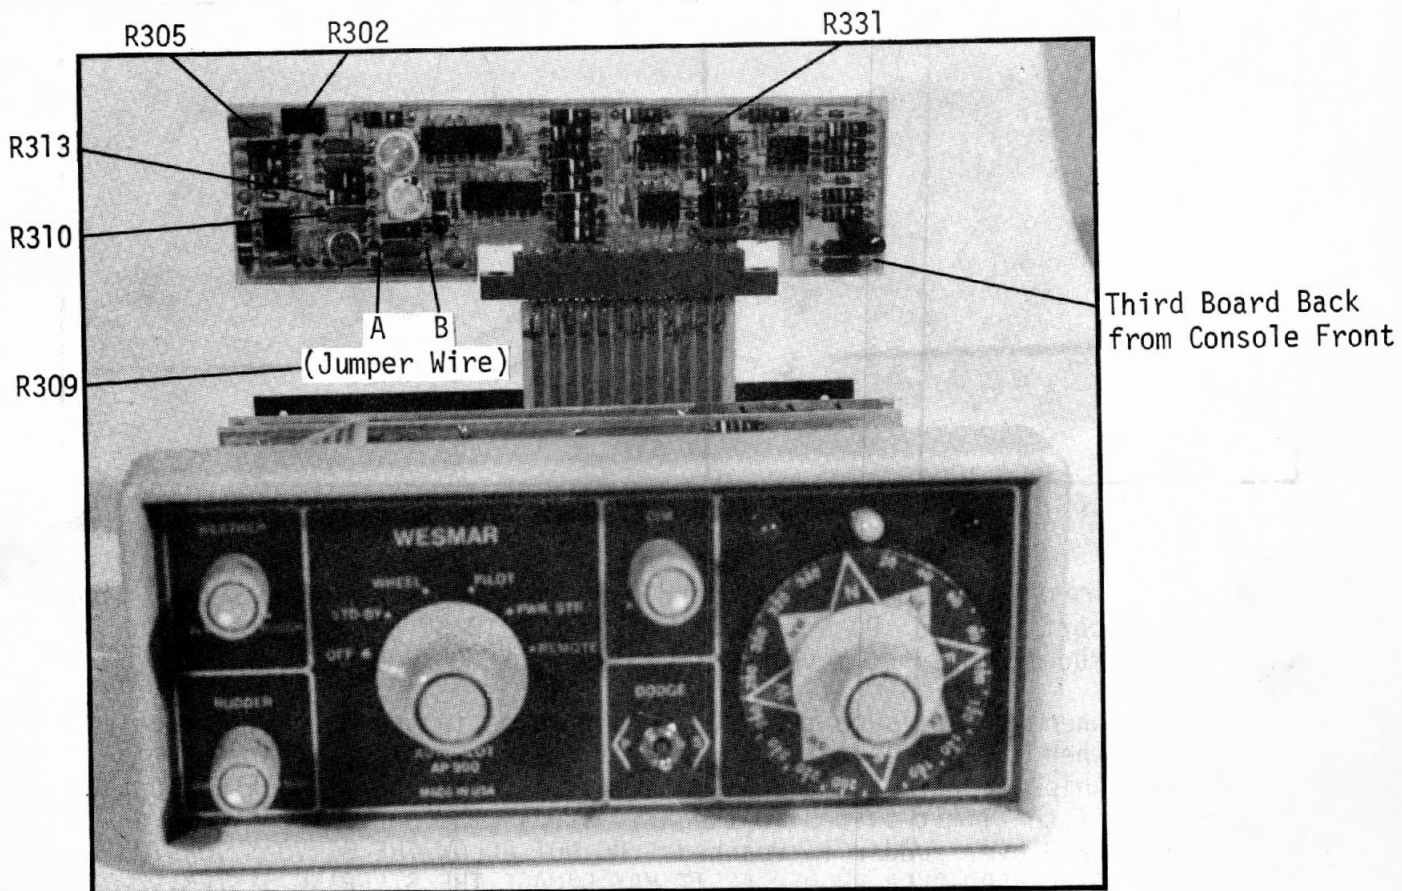

FIGURE 59. AP900-4017 CONTROL AMPLIFIER BOARD
10. Rotate the FUNCTION switch to the WHEEL mode. Place a jumper wire between A and B on the Control amplifier circuit board AP900-4017, as shown in Figure 59. Make sure the rudder is AMIDSHIPS.
11. Connect the voltmeter ground lead to TP7 (4.0 VDC), positive lead to the resistor junction R313 as shown in Figure 59. Observing the voltmeter, adjust R302 for a null or zero volts on the 1 volt scale of meter.
12. Rotate the wheel so the rudder moves 5 degrees to port or starboard. Monitor the voltmeter -- it should read between 500mv and 575mv change. If the meter reads differently, adjust R305 (Figure 59) on the AP900-4017 circuit board until the correct reading is obtained.
19. While in PILOT mode, remove the jumper wire (installed in 3.3 Step 10, page 48) between points A and B on the AP900-4017 amplifier circuit board, Figure 59, page 48. Note that when the jumper wire is removed, the Autopilot will slowly give rudder, to port or starboard. This is a normal function when at dockside. The automatic synchronizer is trying to null out any error signals. This automatic feature becomes operational when an unequal rudder thrust or drag is present, or when there is wind on the bow. Should the vessel yaw while underway, either re-install the jumper wire or remove resistor R310, Figure 59, page 48.
20. With FUNCTION switch in PILOT, and WEATHER and RUDDER controls set fully counterclockwise, check to see if the red and green function lights flash back and forth. If they do, there is a "hunt" condition which is caused by air in the hydraulic lines, or play in the mechanical steering system. Check both possibilities and eliminate the causes. If you are unable to eliminate the "servo loop slop" in this manner, reduce the loop gain by re-adjusting R305 on the AP900-4017 circuit board. (Figure 59, page 48.)
2. Remove AP900 Control Console from its enclosure, so as to expose the calibration pot R331 on the AP900-4017 circuit board. See Figure 59, page 48.